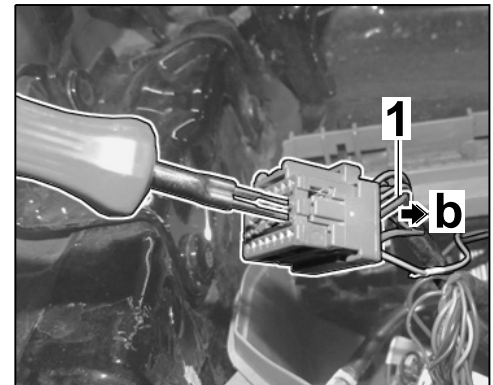

Figure 21
- 2.4.1 Press socket contact of RD/GN line ⇒ *Figure 21-1-* out of the red connector, chamber 17 using press-out tool ⇒ *Figure 21-b-*.